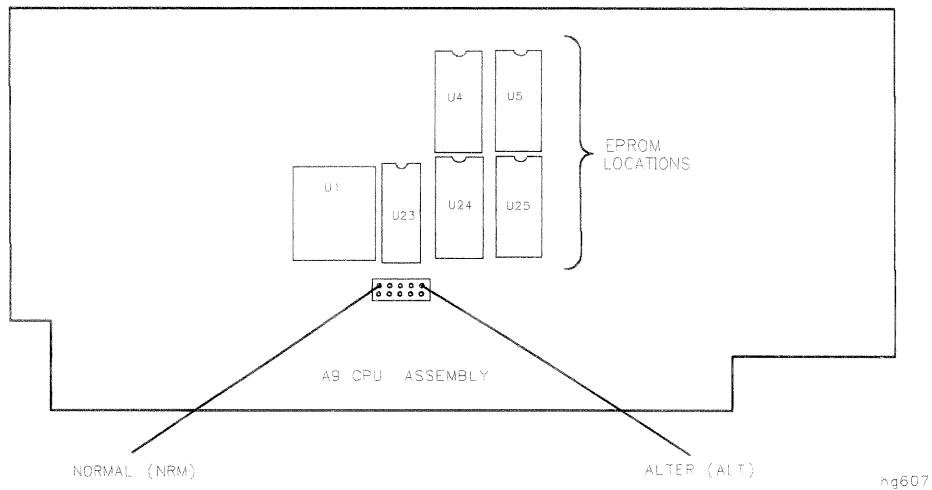

Figure 3-1. Partial Component Location Diagram
6. Move the jumper, as shown in Figure 3-1.